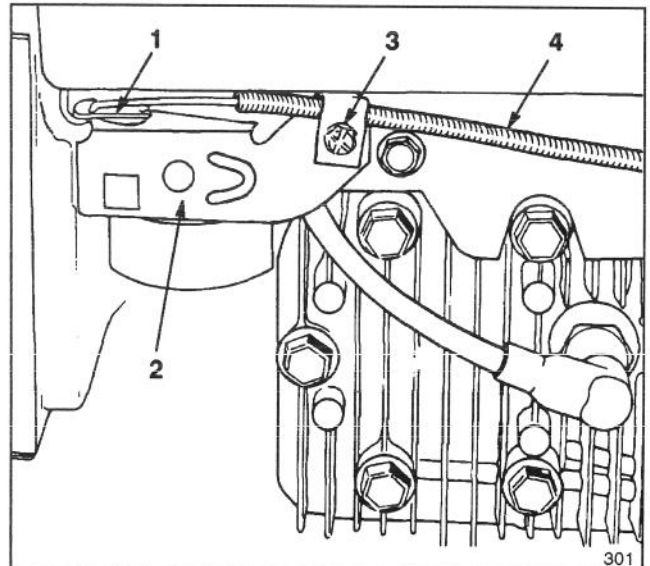
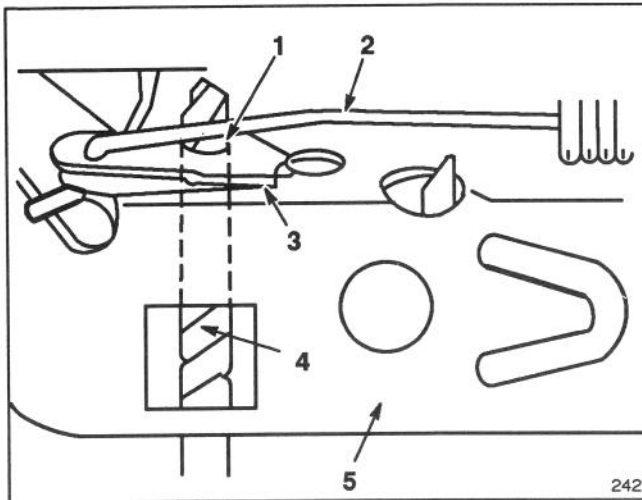

Figure 19
Figure 20
3. Loosen cable clamp screw until throttle cable slides (Fig. 19). Align holes in throttle lever and throttle bracket using a .12" (3 mm) dia. pin or a 1/8" dia. drill (Fig. 20). Tighten cable clamp screw to lock adjustment in place.